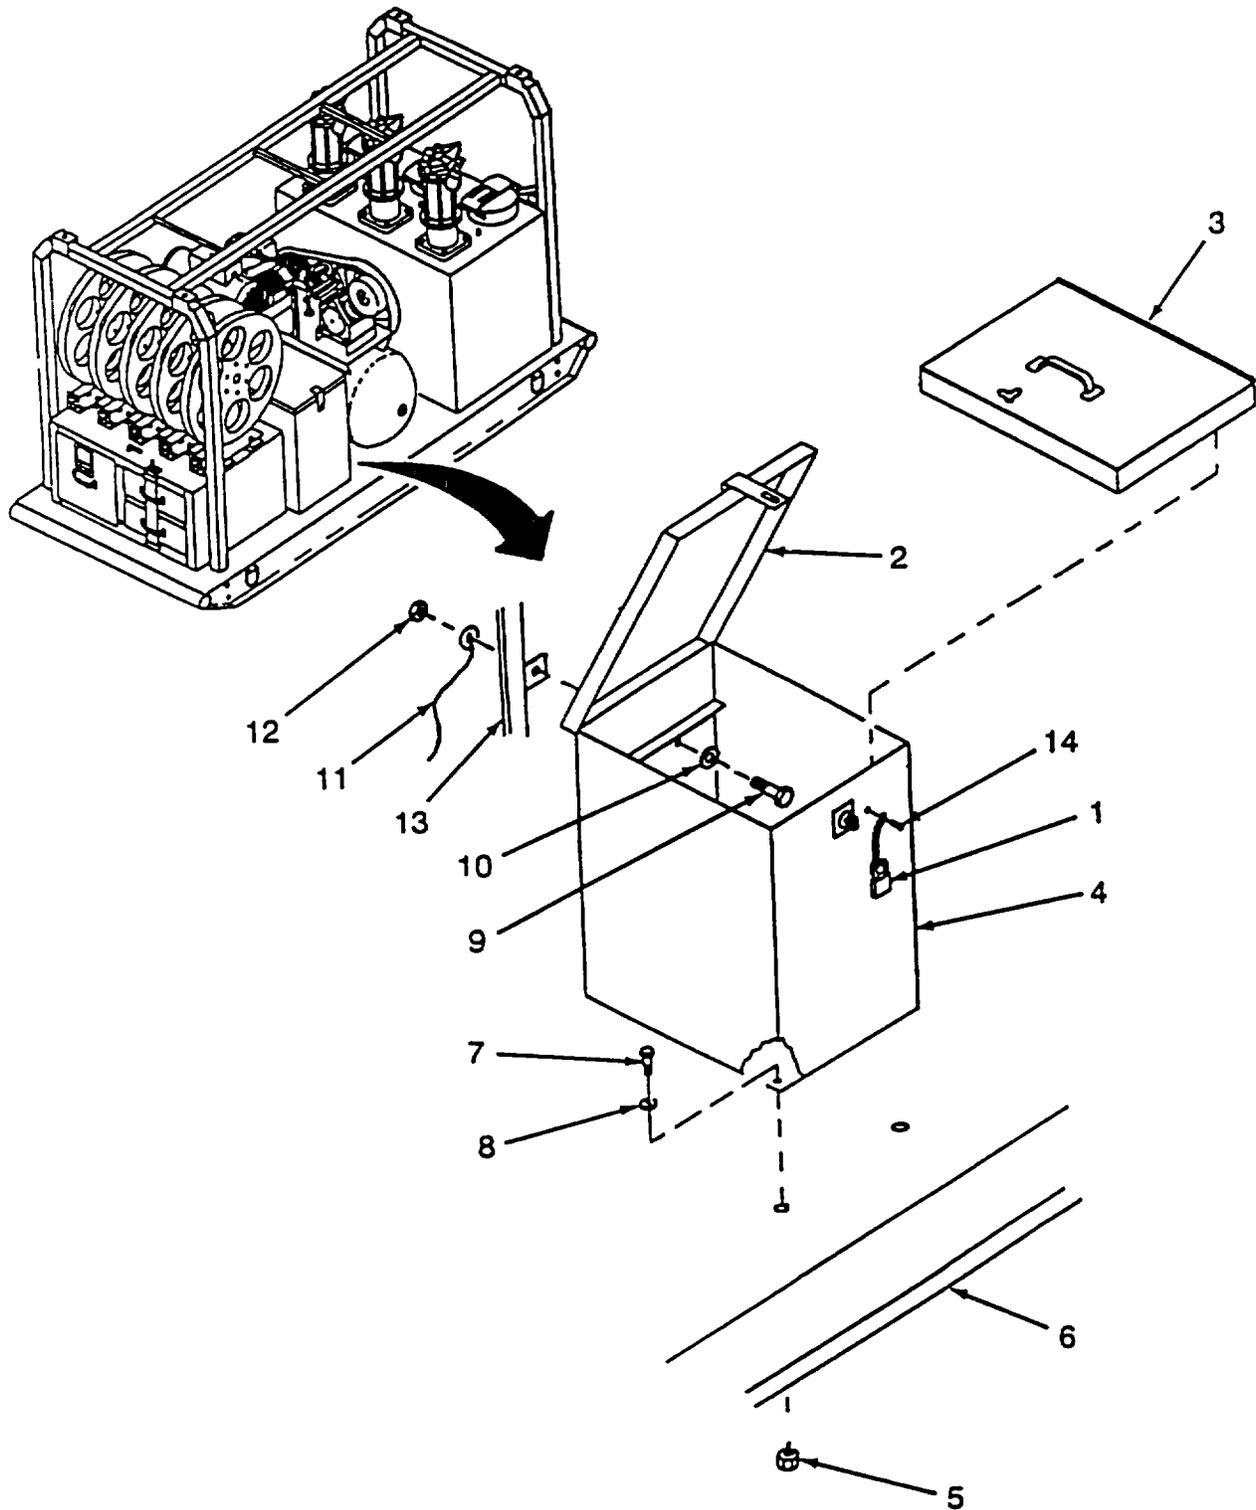

Figure 4-11. Tool Box Assembly
**a. Removal. (Refer to Figure 4-11.)**
- (1) Remove four nuts (5), from bottom of skid (6) and four bolts (7) and four washers (8) from bottom of tool box assembly(4).
- (2) Remove bolt (9), washer (10) from inside of tool box assembly (4) and remove negative wire (11) and nut (12) from tab on heater stand (13).
- (3) Remove tool box assembly (4) from skid (6).